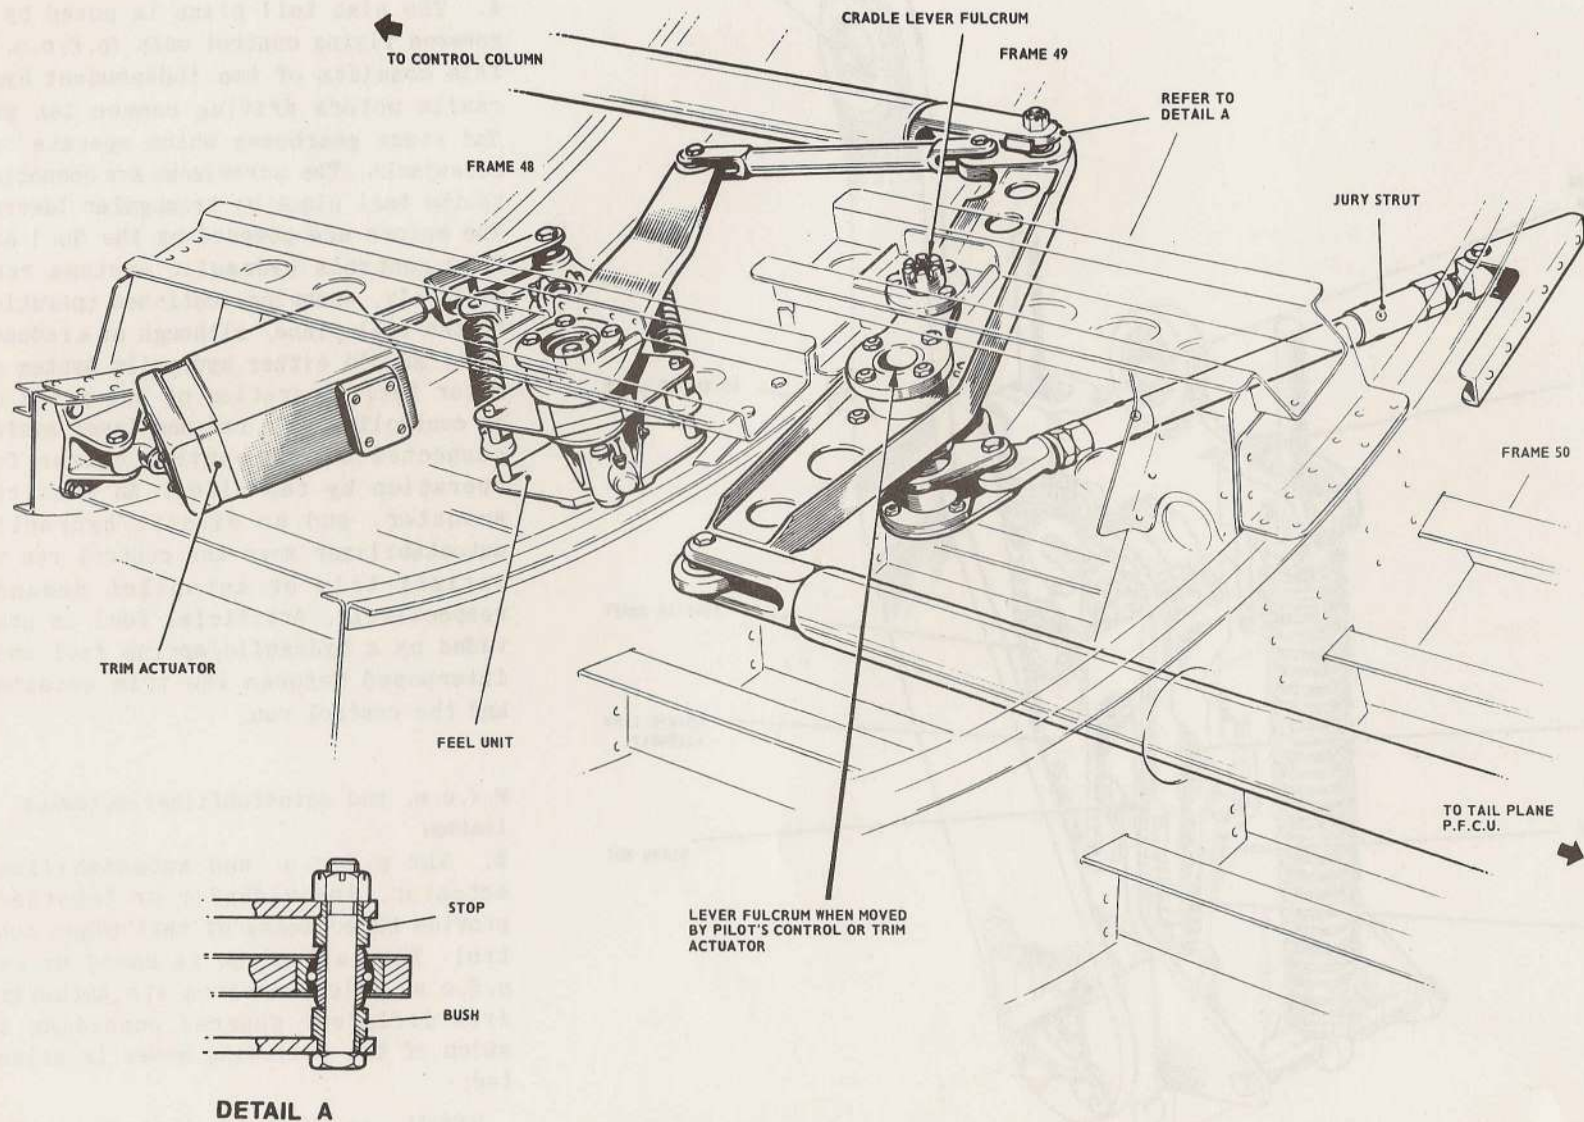

FIG.3. TRIM ACTUATOR AND FEEL UNIT INSTALLATION
This page to be inserted in Sect 3, Chap 4E, facing figure 3.
7. Change of trim is effected by use of the four-position trim switch on the control column handle; e.g. a nose-down attitude is corrected by moving the switch aft to decrease the tail-plane incidence. Operation of the switch energizes a linear actuator connected to the feel unit. The body of the actuator pivots about its mounting bracket on frame 48 and the ram extension is connected to the feel unit body (*fig.3*). Movement of the actuator ram displaces the feel unit which pivots about its mounting to the aircraft structure, and, through the linkage to the lever in the control run, moves the control column and the control valves of the tail-plane motor. The disposition of the actuator and feel unit is such that, for a given linear movement of the ram from mid-setting, extension will produce a greater angular displacement of the feel unit lever arm than will retraction; the effect on the tail plane is that, measured from the rigging position, the nose-up trim range is greater than the nose-down range.